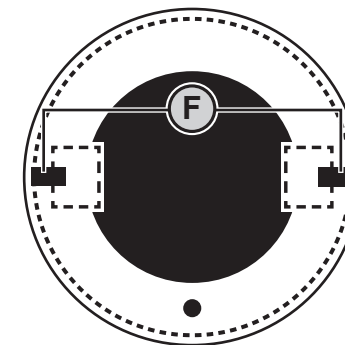

Figure 6
- Stick a new seal on each flap (F) of the new insect screen (fig. 6).